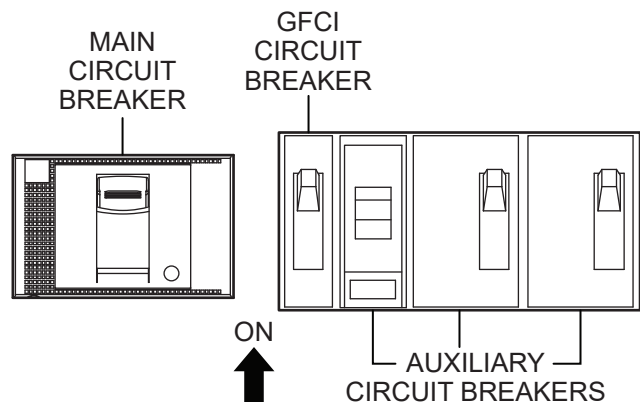

Figure 35. Main, Aux. and GFCI Circuit Breakers (ON)
10. Place the **main, auxiliary, and GFCI** circuit breakers in the **ON** position (Figure 35).